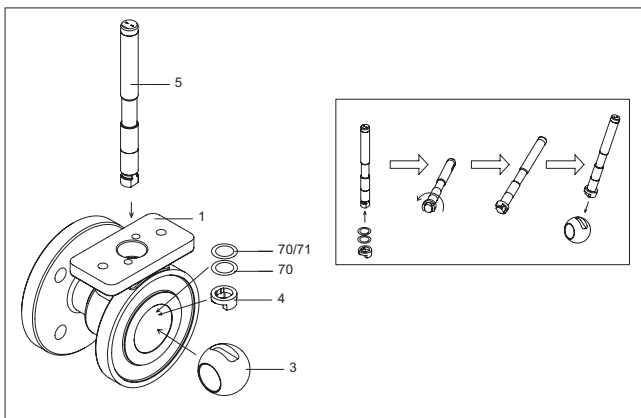

Fig. 23 Assembling the shaft in sizes 1" and 1.5"
- Place the locking wire (51) in the stem groove (5) in sizes DN 250/10" - DN 300/12". Place the stem partly inside the body from above and place the thrust bearings (70) on the stem from inside the body. Place the thrust bearings against the stem shoulder and place the stem in the valve from inside. Place the spline driver (4, sizes DN 50/2"-DN 200/8") on the shaft spline and lock it with a pin (50). Place the thrust ring (4, sizes DN 25/1"-DN 40/1.5") on the shaft and lock it as illustrated in Fig. 23. Put the ball (3) in its position so that the spline driver / thrust ring (4) is in the ball slot. Screw down the studs (14). Place the support ring (67), (sizes DN 250/10" - DN 300/12"), the packing (69), the gland (9) and the retaining plates (42) in their position. Place the nuts (18) on the studs (14) and screw down them gently.